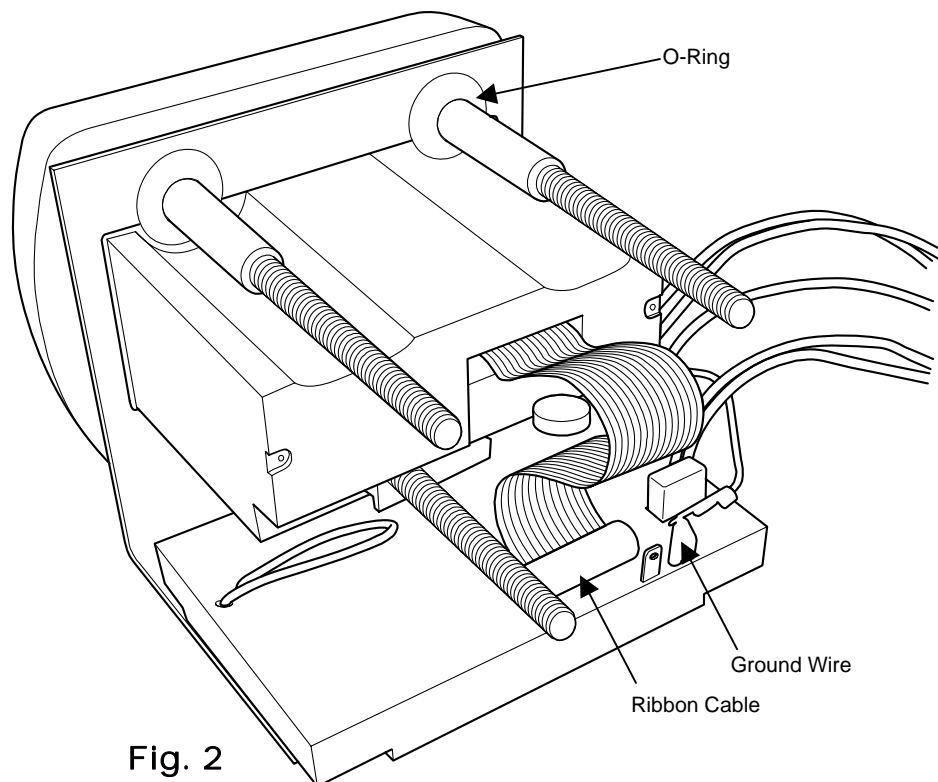

Fig. 2
4. As illustrated in Fig. 2 below, connect the ribbon cable and the green ground cable to the terminals on the circuit board.